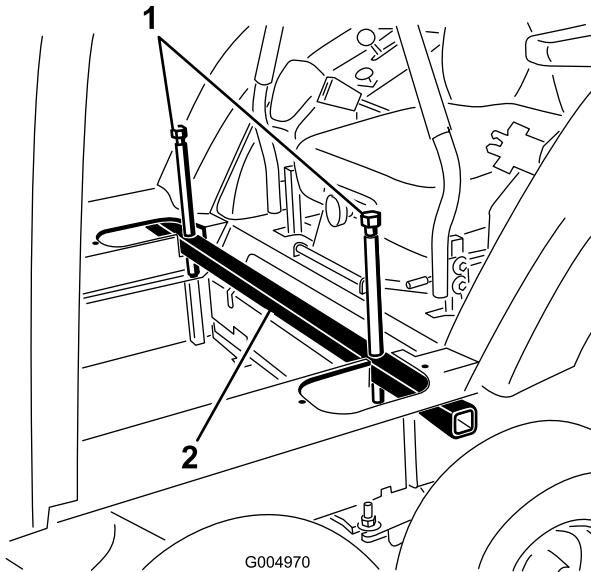

Figure 117
28. Lower the cab into position by slowly and evenly loosening the jacking bolts on each end of the jacking tube (Figure 117).